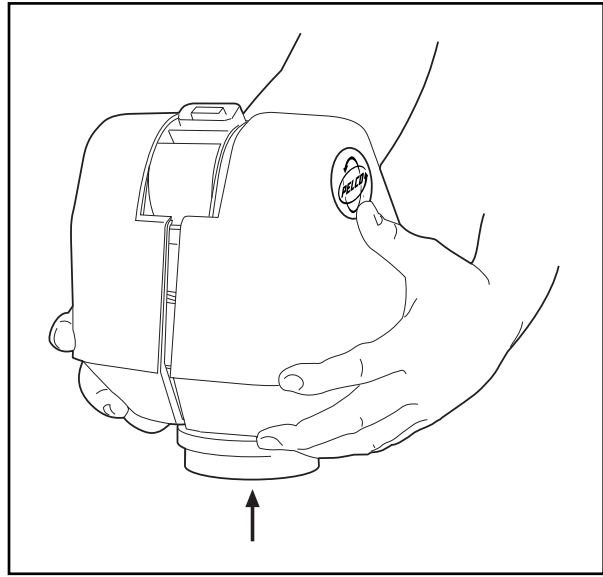

Figure 4. Releasing the Covers
- b. Refer to Figure 4 and place your hands under the cover halves. Exert a strong, upward force to release the covers from their internal latching devices.